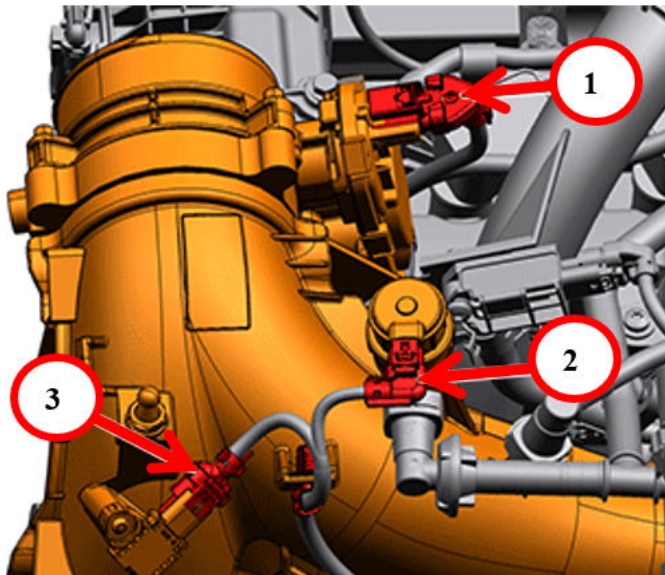

Fig. 1
3. Disconnect the inlet delta pressure valve wire harness connector Fig. 1.
4. Disconnect the MUA solenoid valve wire harness connector and detach the wire harness retainers Fig. 1.
5. Disconnect the MAP sensor wire harness connector Fig. 1.